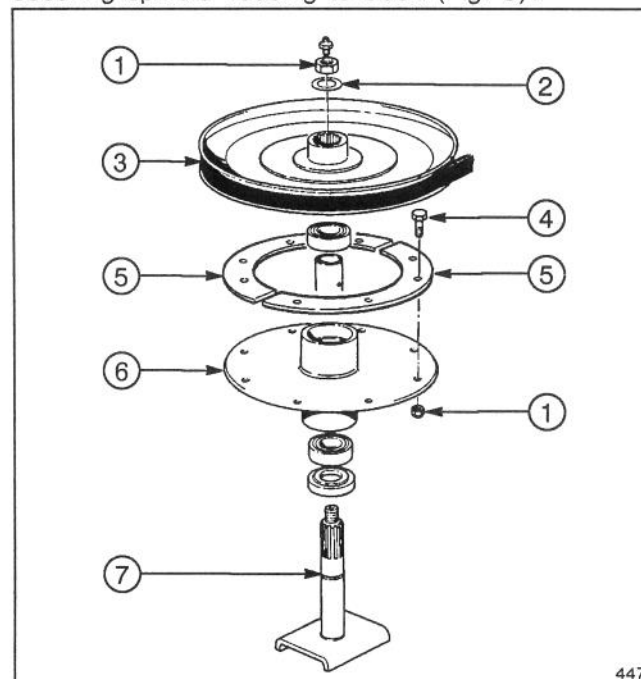

Figure 9
1. Remove lock nut and washer securing drive pulley on spindle (Fig. 9).
4. Remove (8) hex head cap screws and lock nuts securing spindle housing to deck (Fig. 9).
5. Align holes in (2) spacers with holes in spindle housing.
6. Secure spacers and spindle housing to deck with (8) hex head cap screws and lock nuts (Fig. 9).